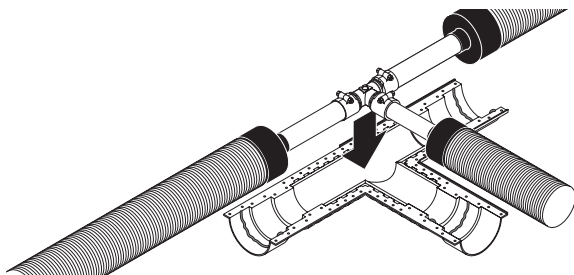

Figure 4-68: Placing the pipes
8. Place the connected pipes into the insulation shell as shown (**Figure 4-68**).